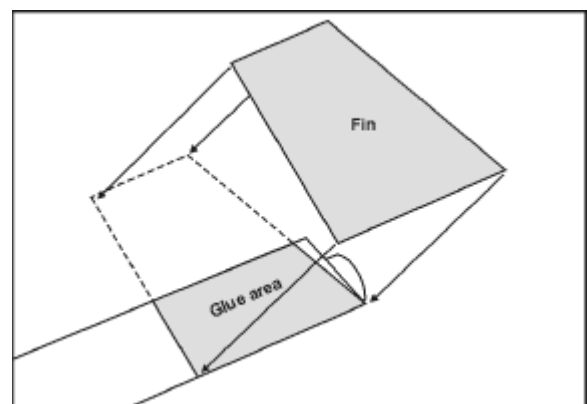

Figure 13
- Taking one of the Fins, verify that it has dried flat and correct as needed. Spread a film of glue along the gray area of the fin and the matching glue area of the Body Tube. Attach this Fin to the Body Tube as shown in **Figure 13**.